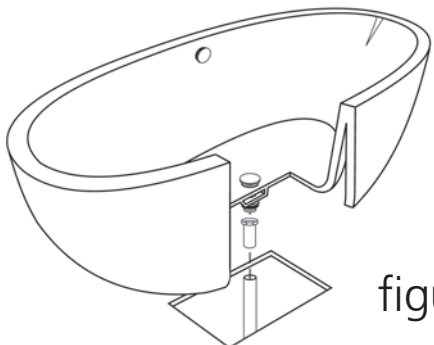

figure 13
19. **Carefully** set tub into position (figure 13) and connect the drain hardware (previously installed). Finish the installation of the tail-piece installation.